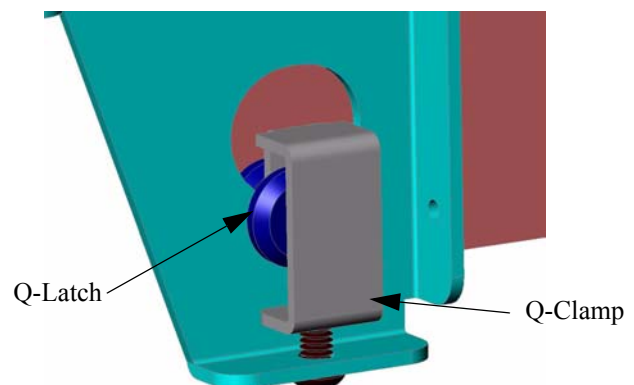

Figure 9. Install Q-Locks
6. Lock the display in place by installing a Q-clamp on each side of the bottom of face plate as shown in Figure 9.